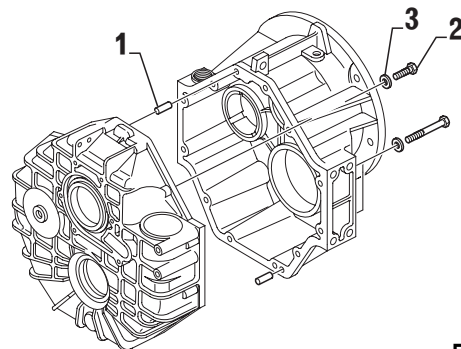

FIG. 6-1b
Loosen and remove all hex head bolts and lock washers (item 2 and 3, Fig. 6-1b). Using a plastic hammer slightly top the split line of the case halves to break the seal. Then remove the input side of the housing.